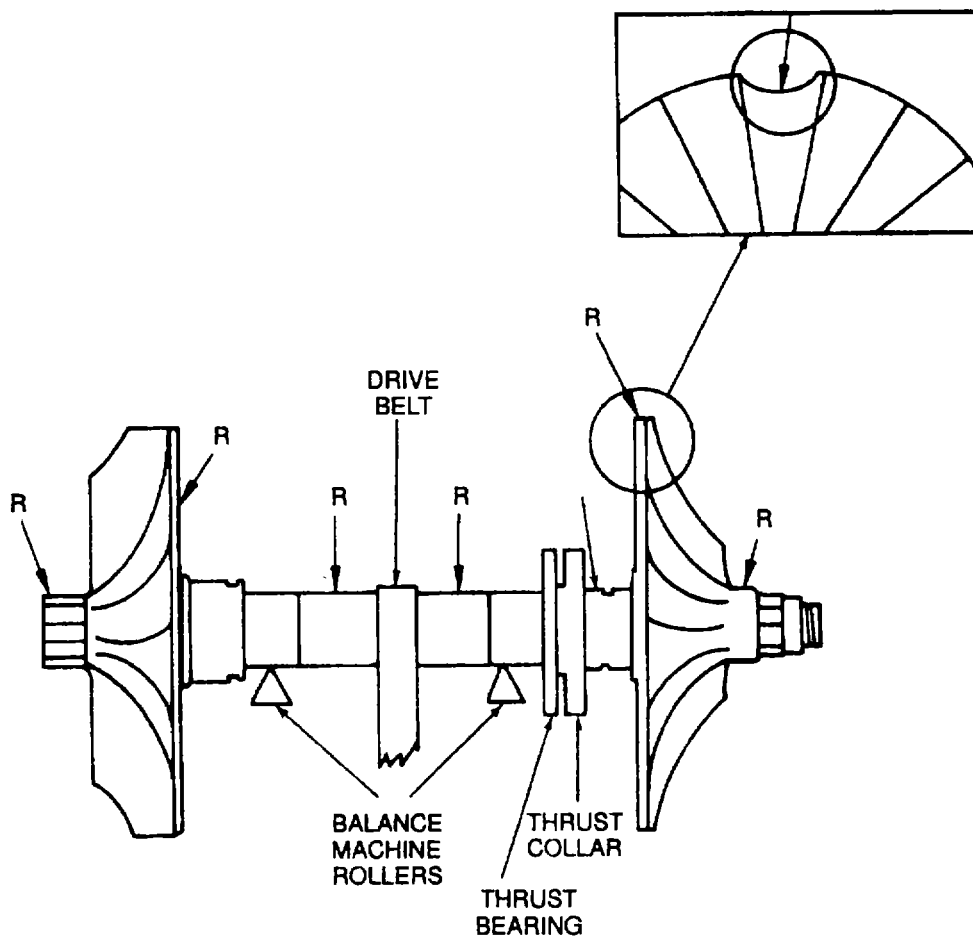

Figure 9-75. Balance of Turbine Wheel and Shaft
- (6) Replace the shroud (12) if it is cracked, deeply scored, or grooved. Remove minor scoring with crocus cloth, P-C-458.
- (7) Replace the impeller (9) if it is cracked, deeply scored or grooved, or shows heavy rub damage. Remove minor nicks and scoring with cloth, P-C458.
- (8) Replace or repair the turbine wheel and shaft as follows:
- (9) If it was necessary to replace the impeller, or the turbine wheel and shaft the turbine wheel and shaft must be balanced individually, and then balanced with the impeller as an assembly. Balance as follows (see Figure 9-75 and Figure 9-76).
- (a) Mount the turbine wheel and shaft in a dynamic balance machine with the rollers centered on the bearing areas, and the drive belt centered between the rollers (see Figure 9-75).
- (b) Turn the turbine wheel and shaft at 3000 r/min, and balance to a tolerance of 0.0003 ounce-inch (0.216 mg/m). To achieve balance, use a die grinder and rotary file, and remove metal from the areas indicated in Figure 9-75 as necessary. Smooth and blend the filed areas with crocus cloth, P-C 458.